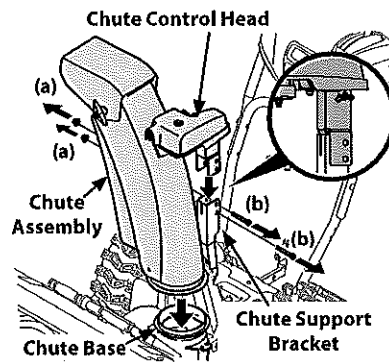

Figure 2-21
1. Remove lock nuts (a) and hex screws (b) from chute support bracket (this will require two wrenches). See Figure 2-21.